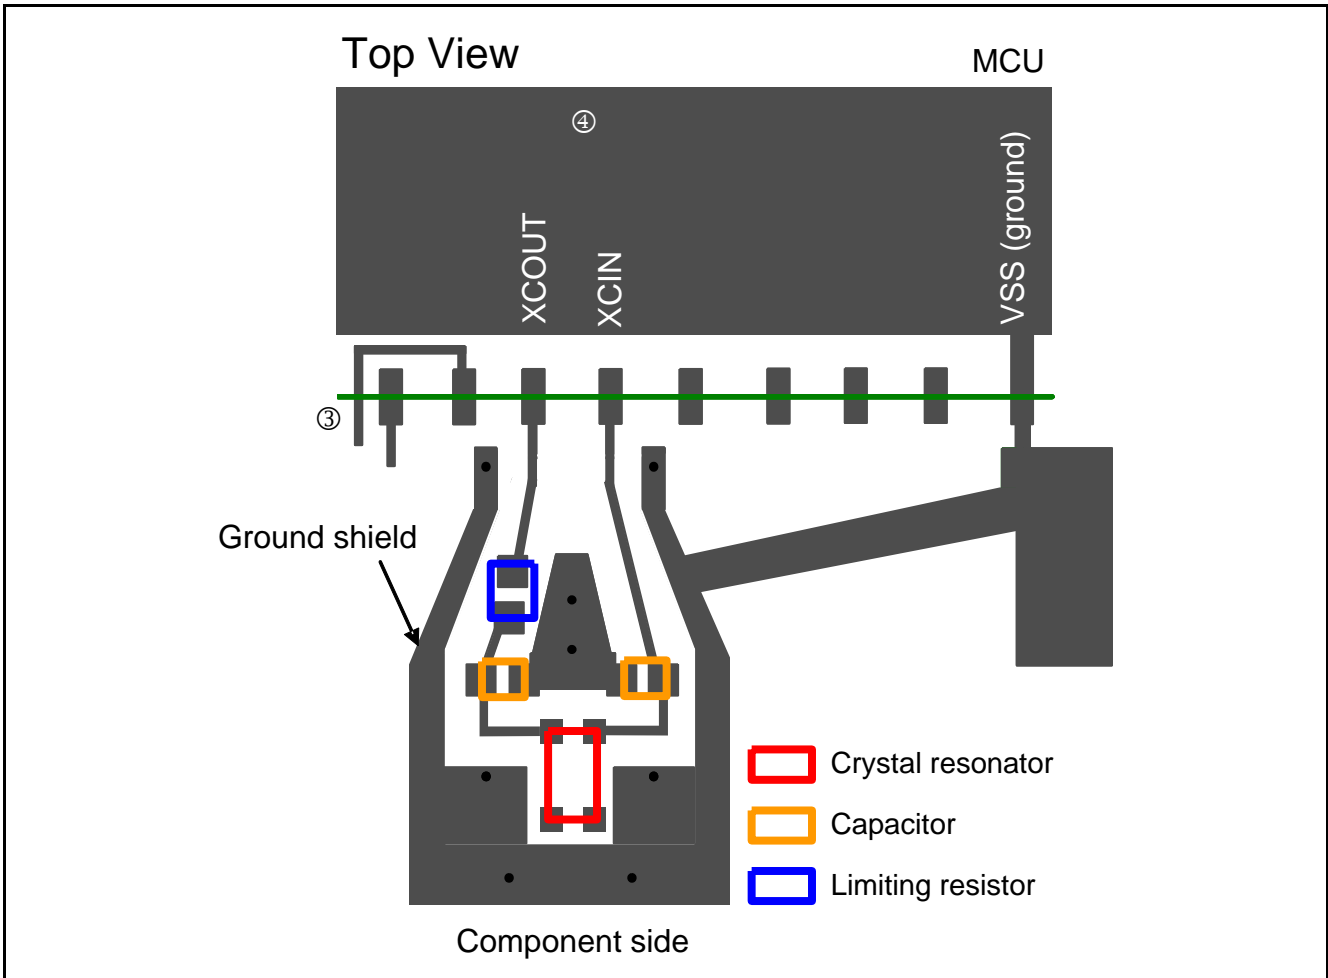
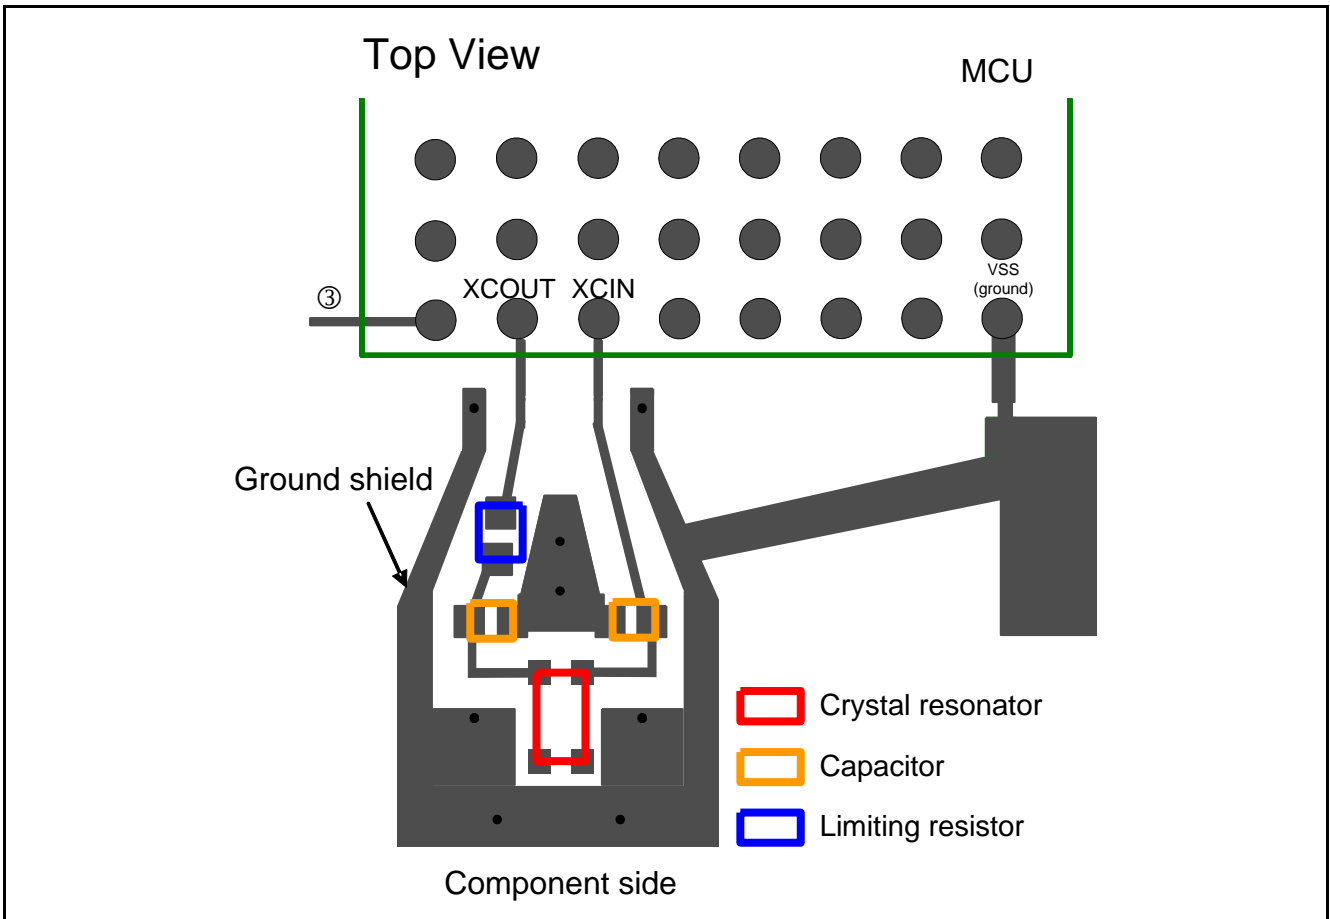

Figure 1.10 Trace Example for Other Points (When Using the LQFP, LFQFP, and HWQFN Packages)
Figure 1.11 Trace Example for Other Points (When Using the WFLGA and TFLGA Packages)
① to ④ below describe other points. Figure 1.10 and Figure 1.11 show trace examples.
- ① Do not place the XCIN and XCOUT wires near wires that have big changes in current.
- ② Do not run the XCIN and XCOUT wires parallel to other signal wires like those for adjacent pins.
- ③ Pin wiring that runs adjacent to the XCIN and XCOUT pins should not directly be laid out outside the MCU. Lay out the wiring through the bottom side of the MCU first and then lay out the wiring to an area away from the XCIN and XCOUT pins (to avoid the wiring running parallel with the XCIN and XCOUT wiring).
- ④ Lay out as much of the ground trace on the bottom side of the MCU as possible.